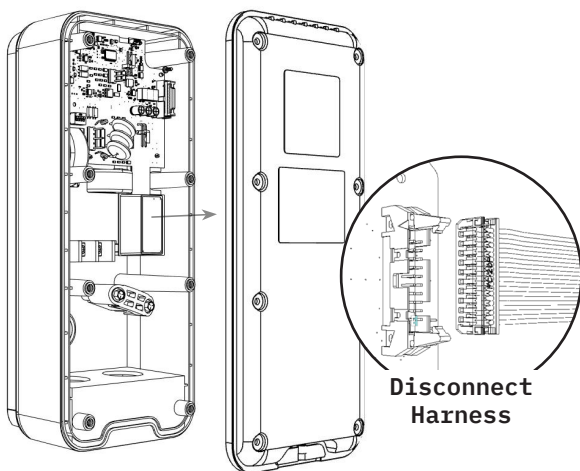

Figure 3-4 Removing the Faceplate
Step 3: Carefully remove the faceplate and disconnect the wiring harness that connects the faceplate to the printed circuit board attached to the rear charger enclosure as shown in Figure 3-4.